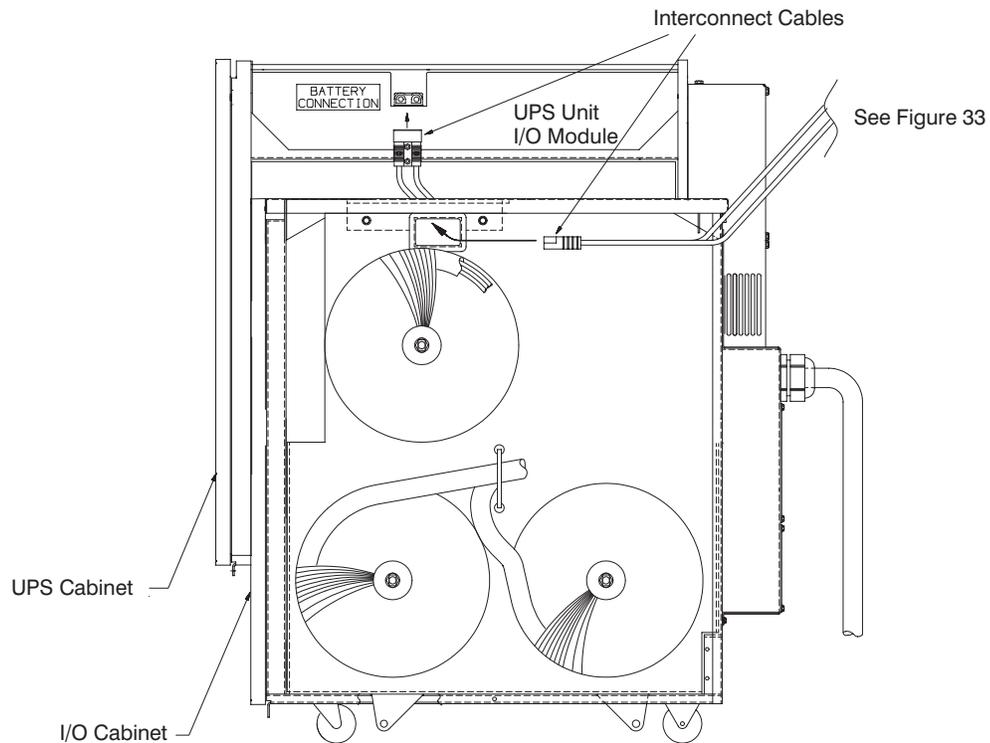

Figure 32. Connecting the Battery Cables – UPS and I/O Cabinets (Right Side View)
17. Mate the connector with the mating half located in the I/O module as shown in Figure 32. If the cabinets are not permanently mounted to the floor, you can slide them apart to make the connection.